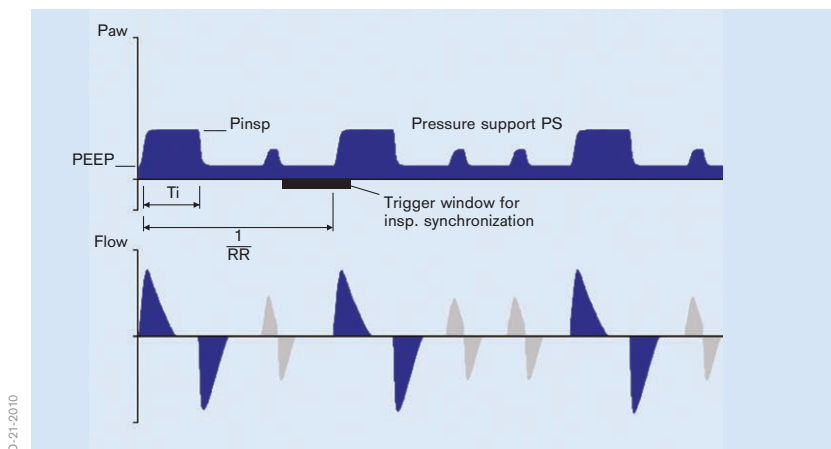

Figure 44: PC-SIMV with pressure support (PS)
- flow-cycled mandatory breaths (Figure 44)